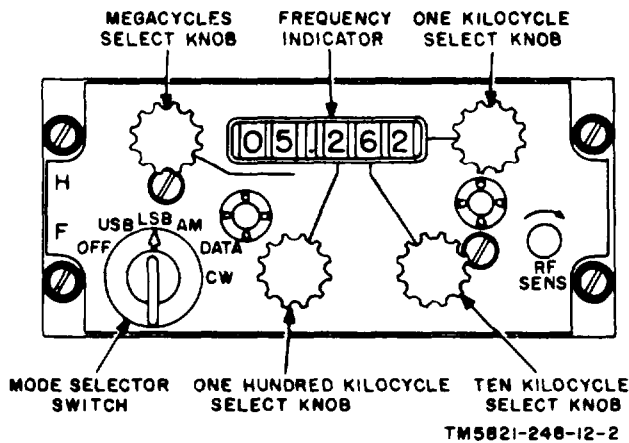

Figure 5. Operating controls.
(fig. 5) 5)
17. Operating Procedures (fig. 5)